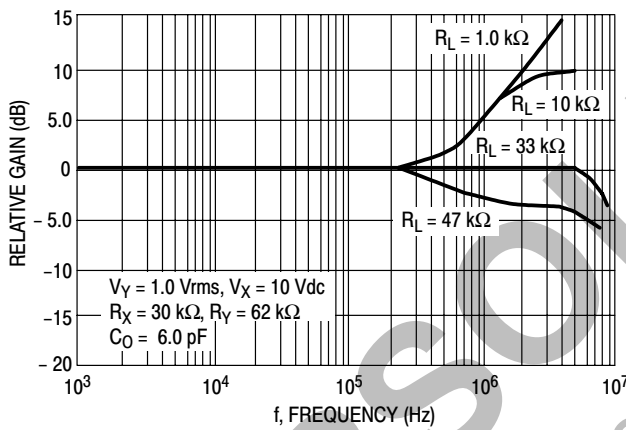
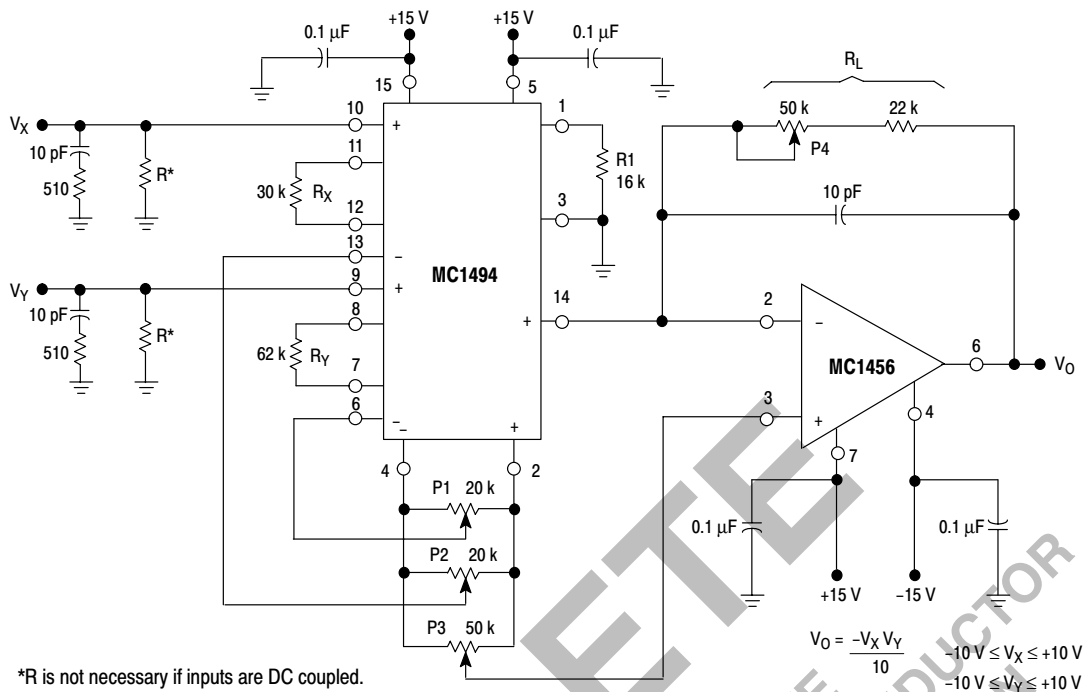
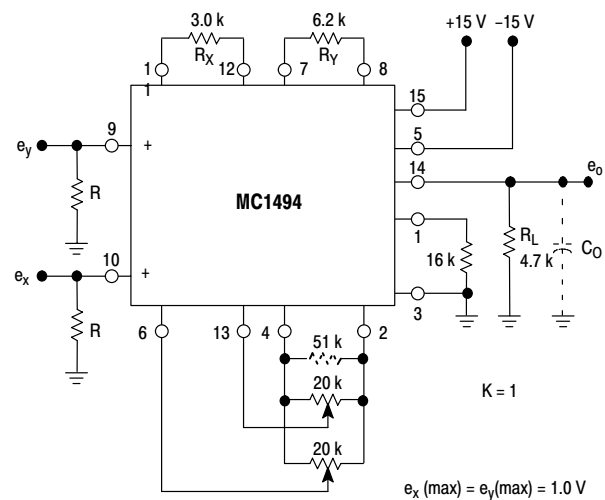

Figure 11. Frequency Response of Y Input versus Load Resistance
Figure 18. Typical Multiplier Connection
Figure 19. Wideband Multiplier
The output current can be easily converted to an output voltage by placing a load resistor R_L from the output (Pin 14) to ground (Figure 19) or by using an op amp as a current-to-voltage converter (Figure 18). The result in both circuits is that the output voltage is given by:
For low frequency operation the circuit of Figure 18 is recommended. For this circuit, $R_X = 30 \text{ k}\Omega$, $R_Y = 62 \text{ k}\Omega$, $R1 = 16 \text{ k}\Omega$ and, hence, $I_1 \approx 0.5 \text{ mA}$. Therefore, to set the scale factor (K) equal to 1/10, the value of R_L can be calculated to be:
Thus, a reasonable accuracy in scale factor can be achieved by making R_L a fixed 47 kΩ resistor. However, if it is desired that the scale factor be exact, R_L can be comprised of a fixed resistor and a potentiometer as shown in Figure 18.
The selection of R_L is arbitrary and can be chosen after resistors R_X and R_Y are found. Note in Figure 18 that R_Y is 62 k Ω while R_X is 30 k Ω . The reason for this is that the “Y” side of the multiplier exhibits a second order nonlinearity whereas the “X” side exhibits a simple nonlinearity. By making the R_Y resistor approximately twice the value of the R_X resistor, the linearity on both the “X” and “Y” sides are made equal. The selection of the R_X and R_Y resistor values is dependent upon the expected amplitude of V_X and V_Y inputs. To maintain a specified linearity, resistors R_X and R_Y should be selected according to the following equations:
The operational amplifier connection in Figure 18 is a simple but extremely accurate current-to-voltage
Since the MC1494 is capable of operation at much higher frequencies than the op amp, the frequency characteristics of the circuit in Figure 18 will be primarily dependent upon the operational amplifier.
The input offset adjustment potentiometers, P1 and P2 will be necessary for most applications where it is desirable to take advantage of the multiplier's excellent linearity characteristics. Depending upon the particular application, some of the potentiometers can be omitted (see Figures 19, 21, 24, 26 and 27).
The adjustment procedure for the circuit of Figure 18 is:
The MC1494 multiplier, like most linear ICs, requires a DC bias current into its input terminals. The device cannot be capacitively coupled at the input without regard for this bias current. If inputs V_X and V_Y are able to supply the small bias current (≈ 0.5 μA) resistors R can be omitted (see Figure 18). If the MC1494 is used in an AC mode of operation and capacitive coupling is used the value of resistor R can be any reasonable value up to 100 kΩ. For minimum noise and optimum temperature performance, the value of resistor R should be as low as practical.
When long leads are used on the inputs, oscillation may occur. In this event, an RC parasitic suppression network similar to the ones shown in Figure 18 should be connected directly to each input using short leads. The purpose of the network is to reduce the "Q" of the source–tuned circuits which cause the oscillation.
For AC operation, such as balanced modulation, frequency doubler, AGC, etc., the op amp will usually be omitted as well as the output offset adjust potentiometer. The output offset adjust potentiometer is omitted since the output will normally be AC coupled and the DC voltage at the output is of no concern providing it is close enough to zero volts that it will not cause clipping in the output waveform. Figure 19 shows a typical AC multiplier circuit with a scale factor K ≈ 1. Again, resistor R_X and R_Y are chosen as outlined in the previous section, with R_L chosen to provide the required scale factor.
The bandwidth of the MC1494 is primarily determined by two factors. First, the dominant pole will be determined by the load resistor and the stray capacitance at the output terminal. For the circuit shown in Figure 19, assuming a total output capacitance (C_O) of 10 pF, the 3.0 dB bandwidth would be approximately 3.4 MHz. If the load resistor were 47 k Ω , the bandwidth would be approximately 340 kHz.
Secondly, a “zero” is present in the frequency response characteristic for both the “X” and “Y” inputs which causes the output signal to rise in amplitude at a 6.0 dB/octave slope at frequencies beyond the breakpoint of the “zero”. The “zero” is caused by the parasitic and substrate capacitance which is related to resistors R_X and R_Y and the transistors associated with them. The effect of these transmission “zeros” is seen in Figures 11 and 12. The reason for this increase in gain is due to the bypassing of R_X and R_Y at high frequencies. Since the R_Y resistor is approximately twice the value of the R_X resistor, the zero associated with the “Y” input will occur at approximately one octave below the zero associated with “X” input. For $R_X = 30$ k Ω and $R_Y = 62$ k Ω , the zeros occur at 1.5 MHz for the “X” input and 700 kHz for the “Y” input. These two measured breakpoints correspond to a shunt capacitance of about 3.5 pF. Thus, for the circuit of Figure 19, the “X” input zero and “Y” input zero will be at approximately 15 MHz and 7.0 MHz respectively.
From this brief discussion, it is evident that for AC applications; (1) the value of resistors R_X , R_Y and R_L should be kept as small as possible to achieve maximum frequency response, and (2) it is possible to select a load resistor R_L such that the dominant pole (R_L , C_O) cancels the input zero (R_X , 3.5 pF or R_Y , 3.5 pF) to give a flat amplitude characteristic with frequency. This is shown in Figures 11 and 12. Examination of the frequency characteristics of the “X” and “Y” inputs will demonstrate that for wideband